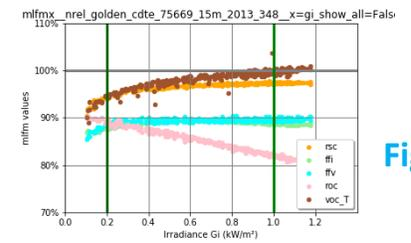

Fig 1
3. Get xaxis (Gi, Tmod, datetime) to analyse mlfm and plot for fig 1
7. Plot many MLFM values (y axis) vs. Gi, Tmod, Datetime (Fig 1)